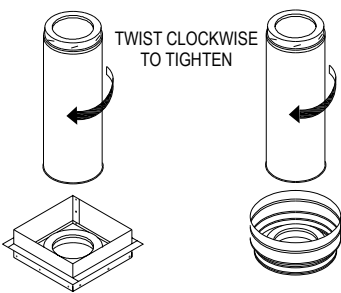

Figure 9
7. Assemble Chimney Sections: Lower the female end of the first Chimney Section in the Support Box (**Fig 9**). It will twist-lock clockwise onto the male end of the Support Box. Turn Pipe Sections firmly clockwise to lock them together. Sheet metal screws are not required, but they may be used to reinforce the connection, if desired. Use only 1/2" (or shorter) sheet metal screws. Do not penetrate the inner liner of the chimney.